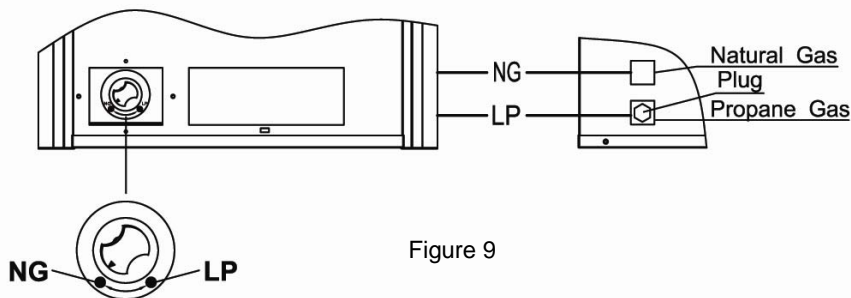

Figure 9
2. For NATURAL GAS, press in knob using a flat screwdriver with a blade the thickness of a quarter and turn knob clockwise until the  knob locks into the NG position (see figure 9). Selection valve must be locked into the NG position. Do not operate heater between locked positions!